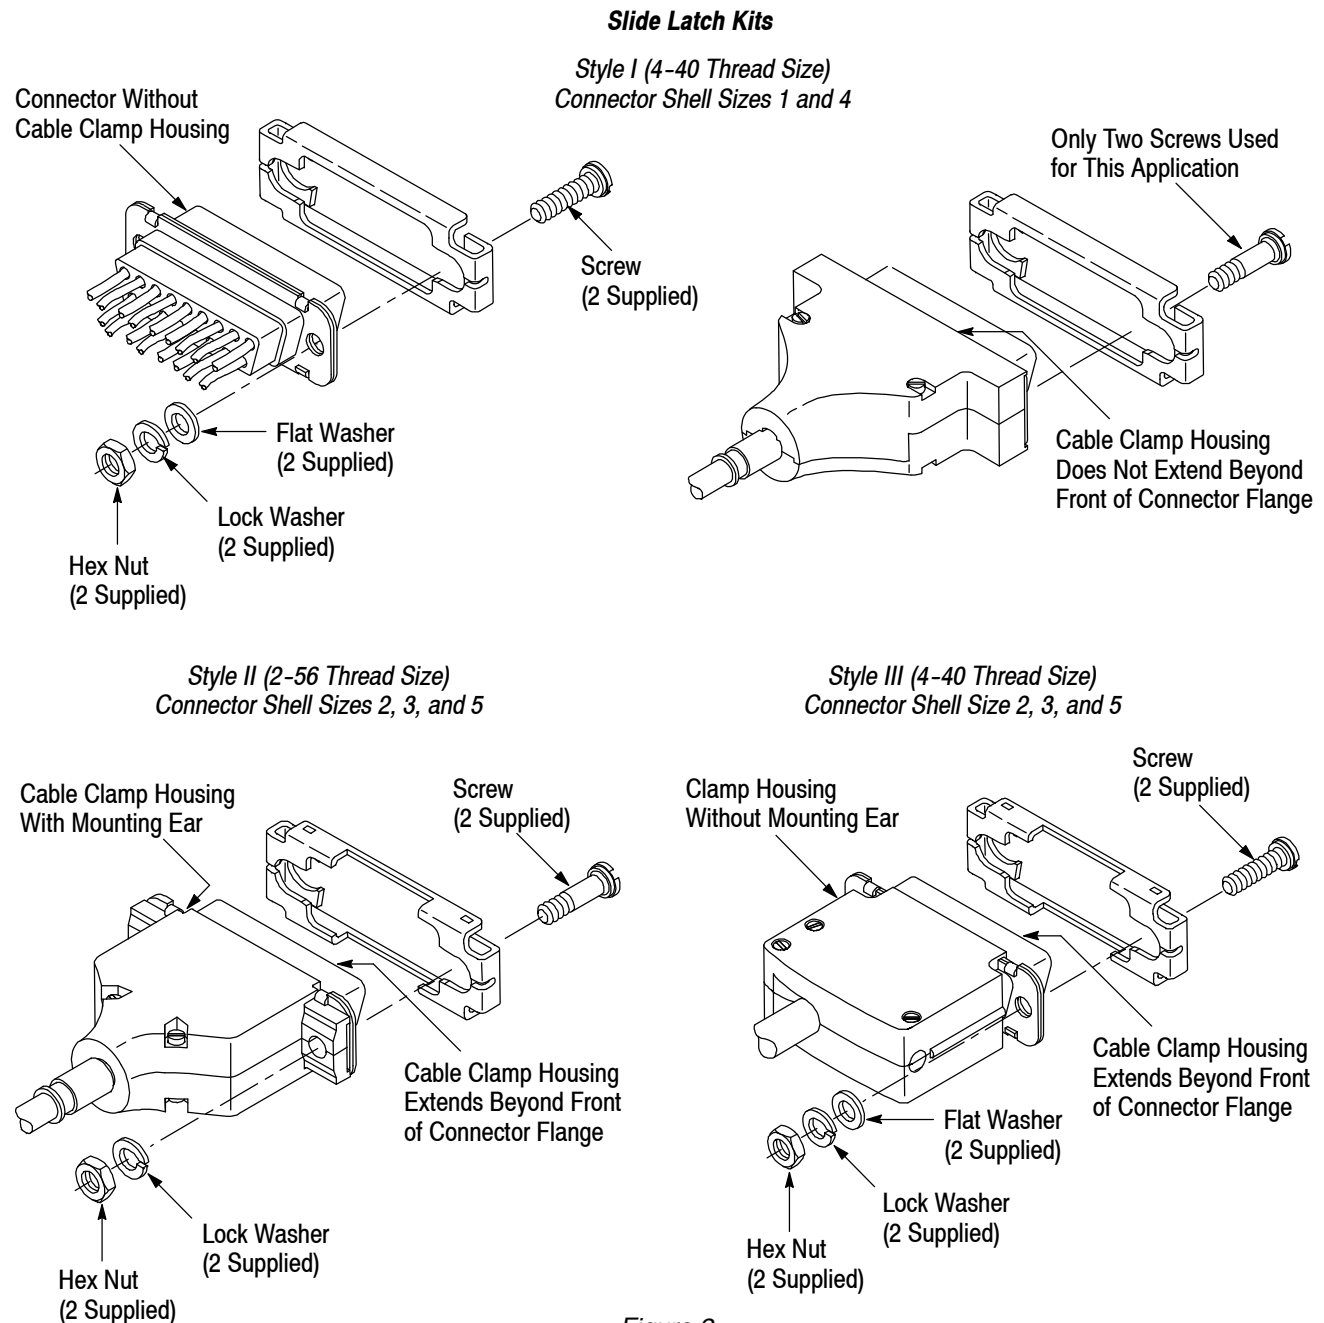

Figure 2
3.1. Slide Latch Kits (See Figure 2)